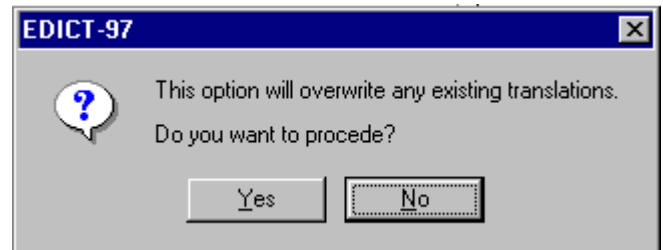

Fig. 13.55
- d. Press the Import button in the Language Editor screen to load the text file. A dialog box will warn you that importing a file will overwrite an existing translation. See Fig. 13.55. Press the Yes button to proceed.